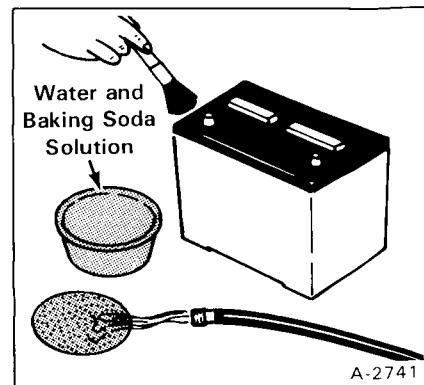

Fig. 1-28 Cleaning the Battery
- (1) Check that the battery cables are clean and tight and check the water level of the batteries. Remove any acid or corrosion from the battery and cables with a sodium bicarbonate (baking soda) and water solution (Fig. 1-28). Cover the terminals with Clark Battery Saver to prevent corrosion.